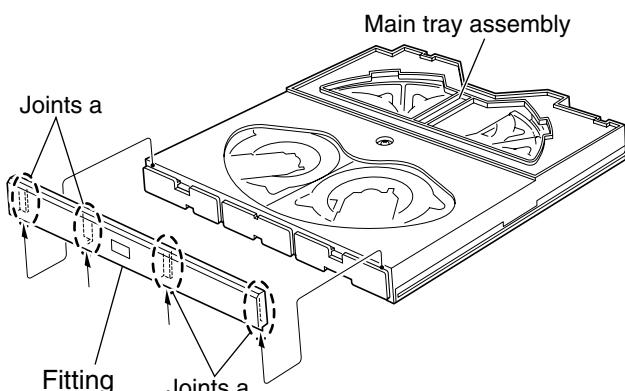

Fig.1
■ Removing the fitting (See Fig.1)